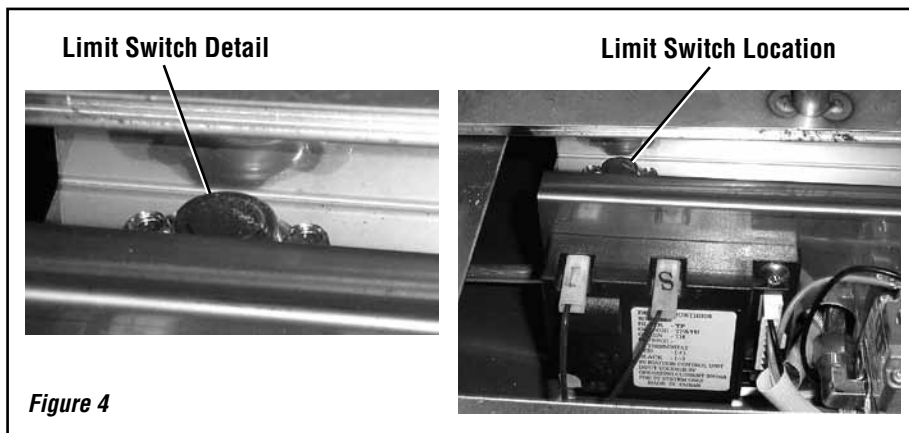
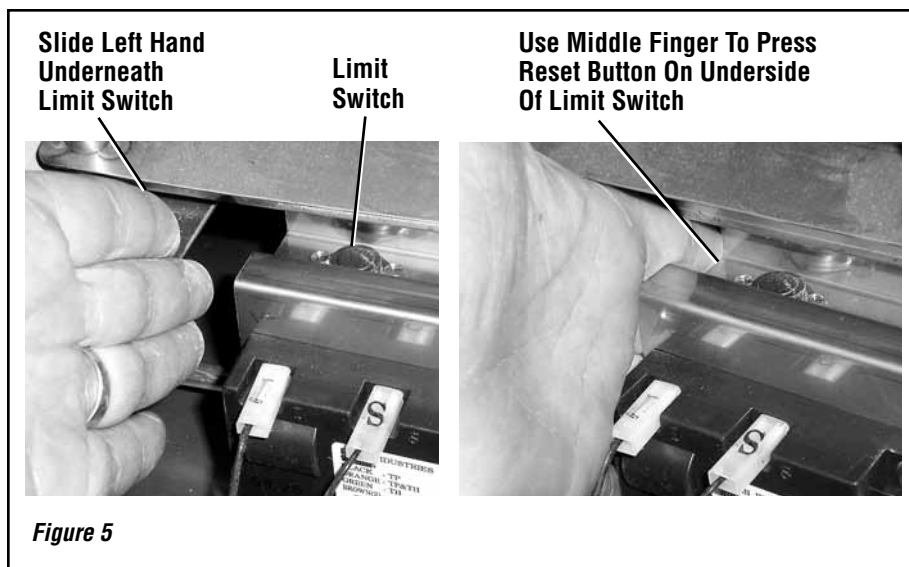

Figure 4
Figure 5
Step 2. Slide your left hand into the fireplace and use your middle finger to feel for two wires connected to the limit switch. Follow up, in between the two wires is the reset button, located on the back of the limit switch. **Refer to Figure 4 and Figure 5 on Page 7 for more detail.**